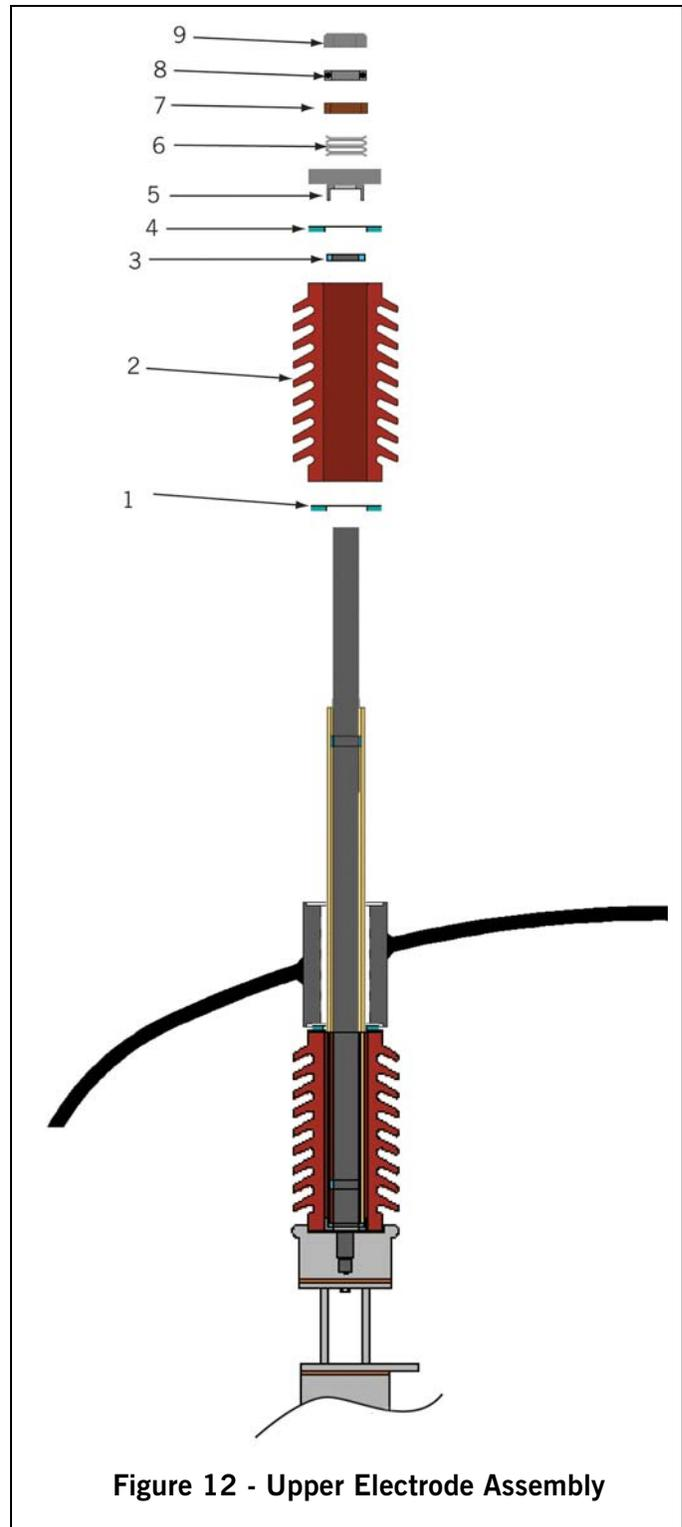

Figure 12 - Upper Electrode Assembly
- Disengage the winch and begin upper electrode assembly (see Figure 12).